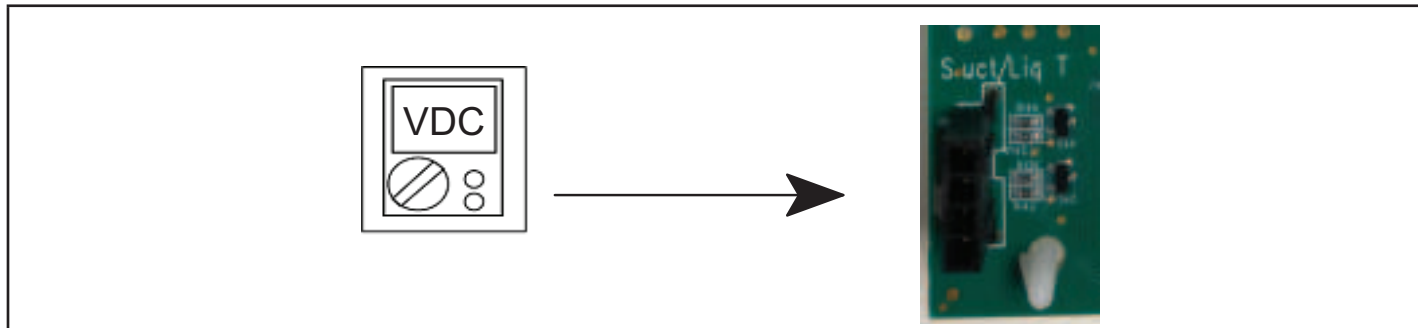

FIGURE 30. Suction Pressure Transducer Voltage
- Low suction pressure protection (suction pressure transducer emulate LPS) (Auto-reset) - Trips at 25 PSIG, reset at 90 PSIG (See figure 30)